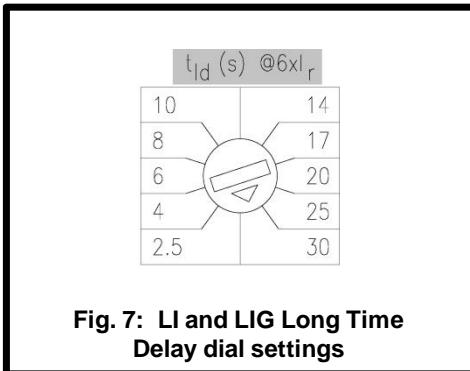
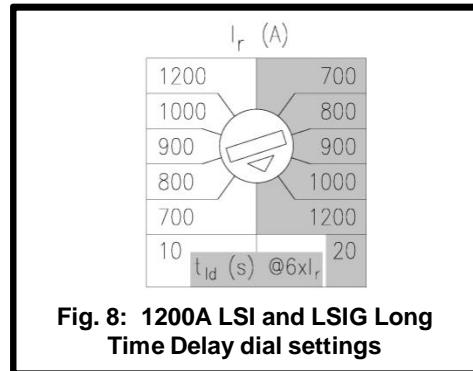

Fig. 7: LI and LIG Long Time Delay dial settings
Fig. 8: 1200A LSI and LSIG Long Time Delay dial settings
All model types have an adjustable Long Time Delay. The Long Time Delay times are an I^2t function calibrated at 6 times the Continuous Current setting. For LI and LIG breakers (see Fig. 7), there are ten (10) Long Time Delay settings that range from 2.5 to 30 seconds. For LSI and LSIG breakers (see Fig. 8), there are two Long Time Delay settings which are selected based on the Continuous Current setting. As shown in Fig. 8, the Continuous Current settings on the left selects a Long Time Delay setting of 10 seconds and the Continuous Current settings on the right select a Long time Delay setting of 20 seconds.